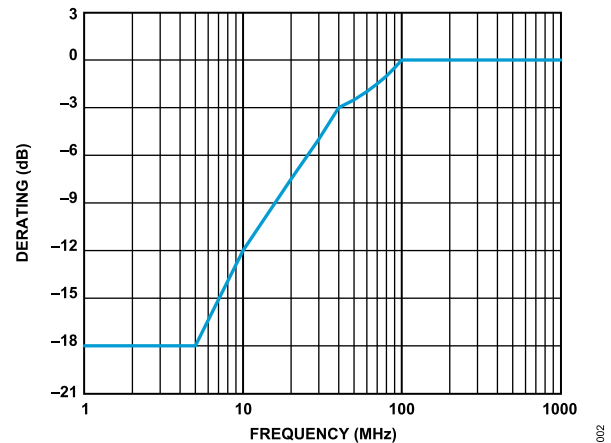

Figure 2. Power Derating vs. Frequency, Low Frequency Detail, $T_{CASE} = 85^\circ\text{C}$
² For power derating over frequency, see Figure 2.
¹ For power derating over frequency, see Figure 2.
- For power derating over frequency, see Figure 2.